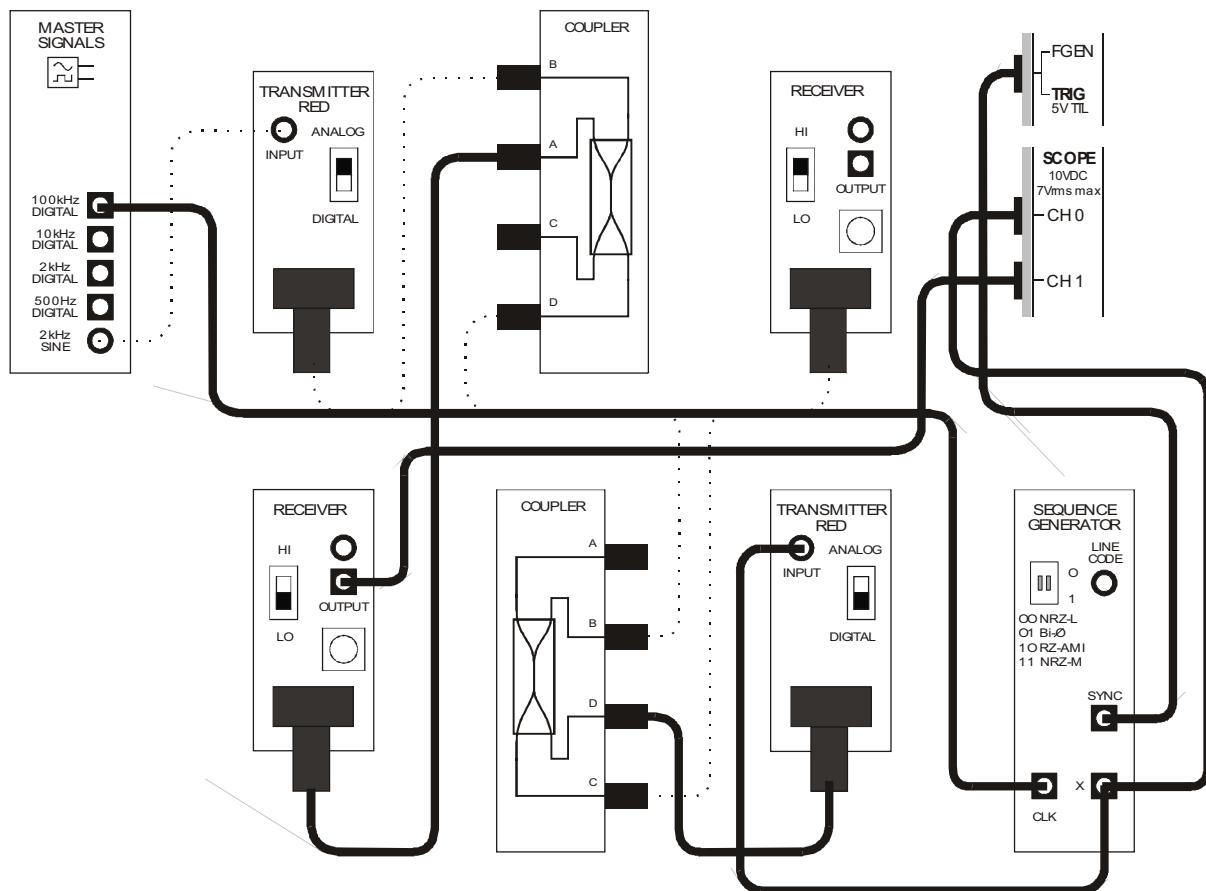
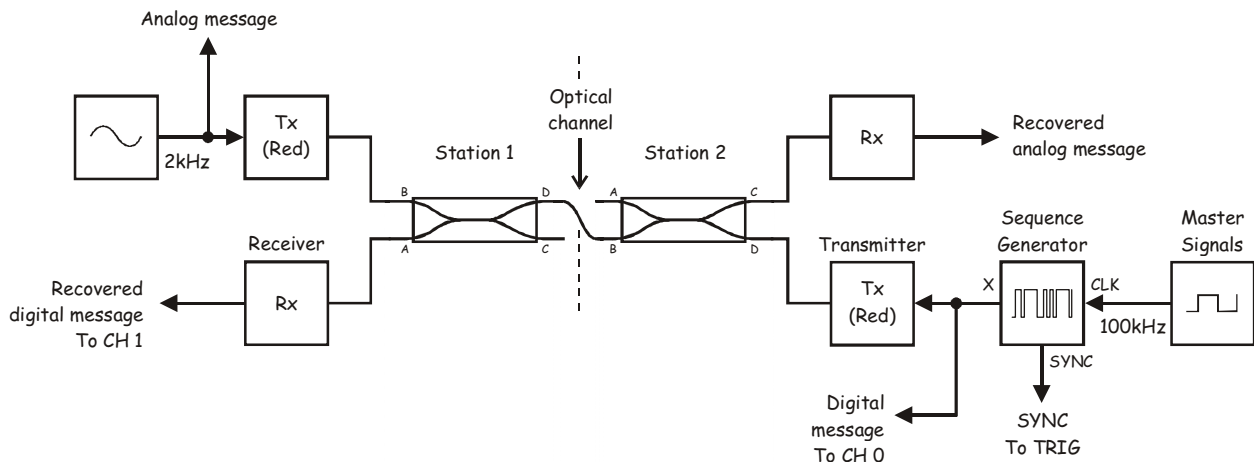

Figure 4
Figure 5
19. Modify the set-up as shown in Figure 4 below.
The set-up in Figure 4 can be represented by the block diagram in Figure 5 below. Both stations can now transmit and receive information. For contrast, the Station 2 message is a digital data signal modeled by the Sequence Generator module with a 100kHz bit-clock. The channel (modeled by the optical patch lead between the left and right couplers) now carries information in both directions.
The changes to the scope's connections return the set-up to the block diagram in Figure 5.